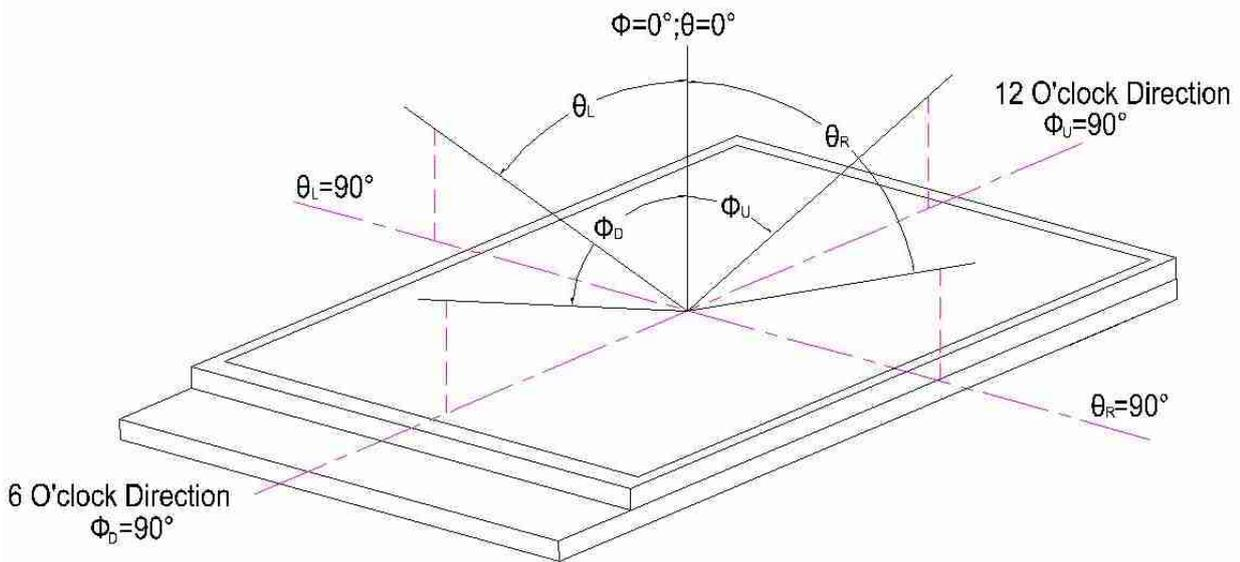

FIG.4 The definition of Viewing Angle
4. Viewing angle is the angle at which the contrast ratio is greater than 5. The angles are determined for the horizontal or x axis and the vertical or y axis with respect to the z axis which is normal to the LCD surface. For more information see FIG 4.